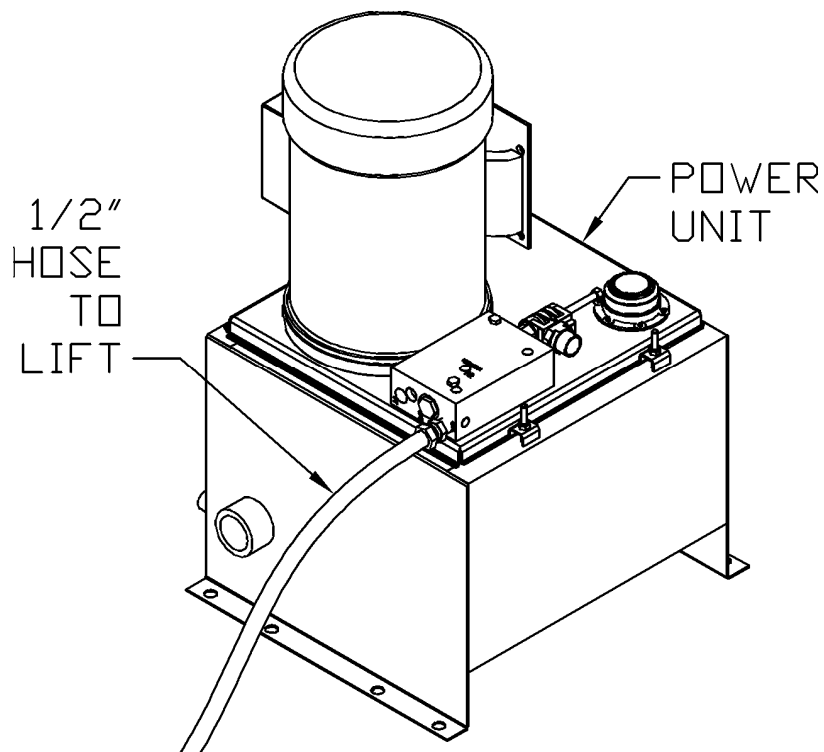

Figure 30 Standard Power Unit – 5HP/230VAC/1ph
H. MOUNT POWER UNIT & CONNECTING HOSE (Reference Figures 30 & 31)
2. Install the 1/2" x 240" high pressure hose from the pressure outlet on the power unit (1/2" JIC fittings) to the flex track on the lower level floor. Use the fittings shown in **Figure 30** to transition from the 1/2" power unit hose to the 1/2" flex track hose.